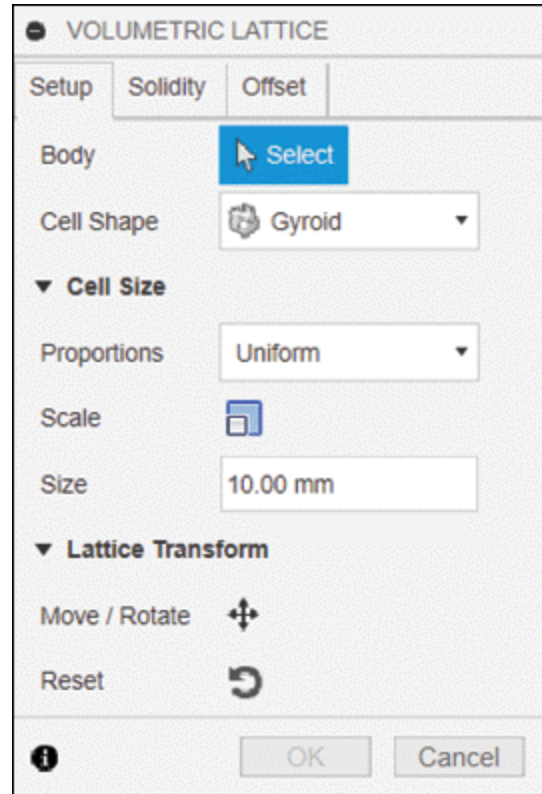

Figure-74. VOLUMETRIC LATTICE dialog box
- Click on the **Volumetric Lattice** tool from the **MODIFY** panel in the **SOLID** tab of the **Ribbon**. The **VOLUMETRIC LATTICE** dialog box will be displayed; refer to Figure-74.